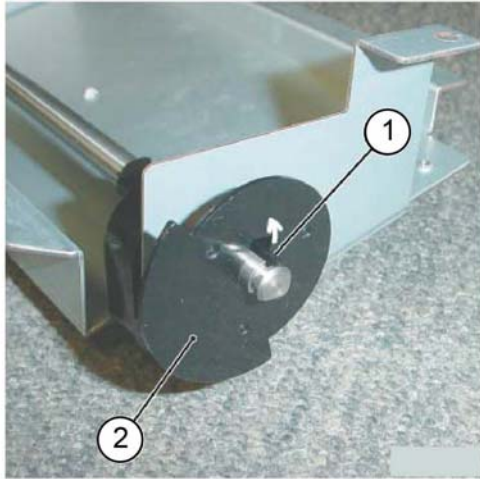

Figure 6 Actuator removal
10. Unhook (1), then remove the actuator (2), Figure 6.